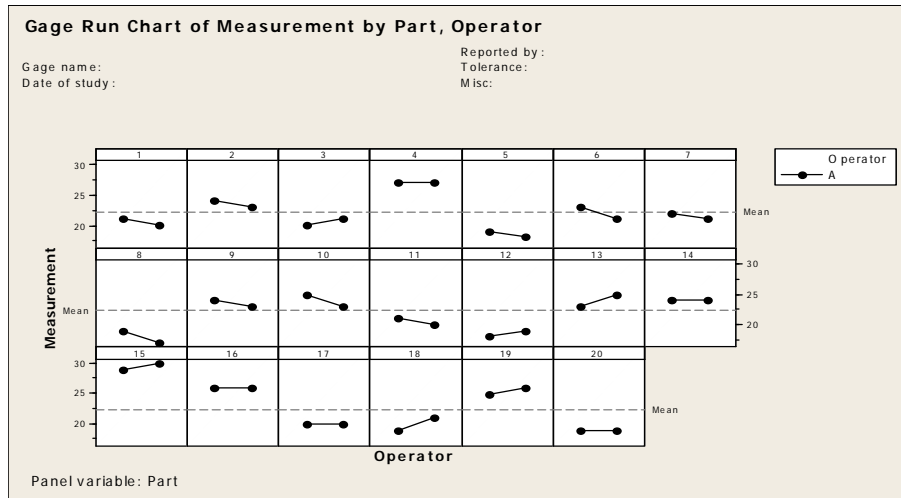

Figure 7.12: Gage Run Chart for the Data of GAGE1A.MTW
- The plot in Figure 7.12 also provides an idea about repeatability (which is the variation due to the gage or measurement system).....